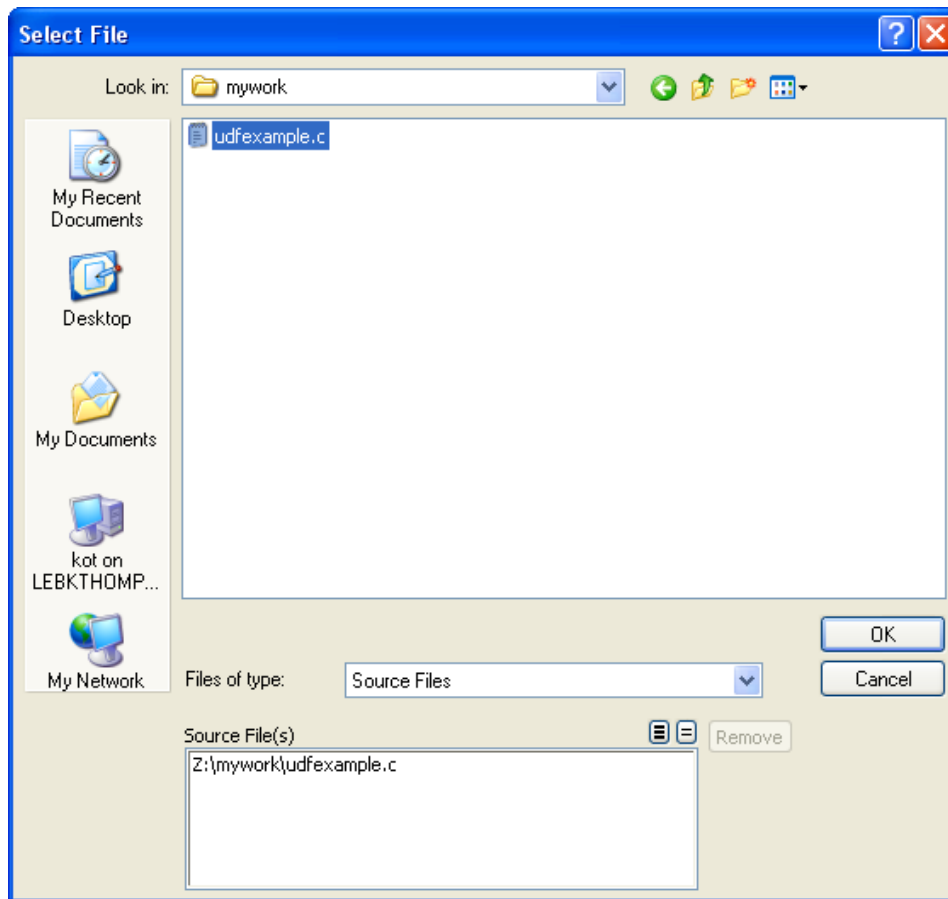

Figure 5.2.2: The Select File Dialog Box
5. In the Compiled UDFs dialog box click on **Add...** under **Source Files** to select the UDF source file (or files) you want to compile. This will open the **Select File** dialog box (shown in Figure 5.2.2).